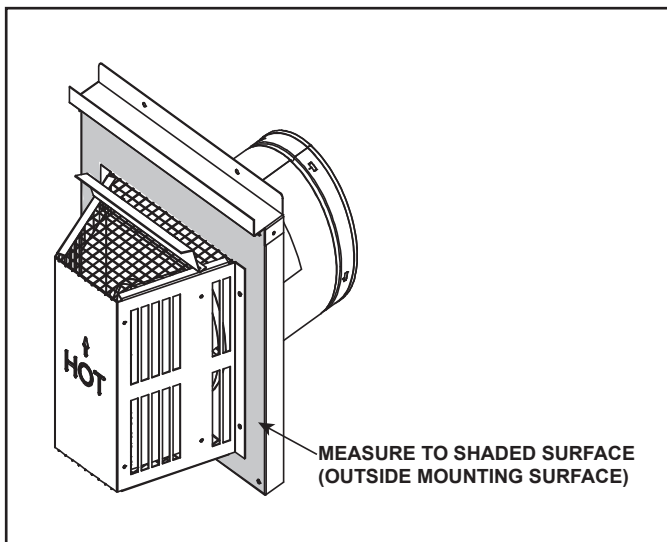

Figure 4.7 Measure to Outside Mounting Surface
- Horizontal terminations are measured to the outside mounting surface (flange of termination cap). See Figure 4.7.